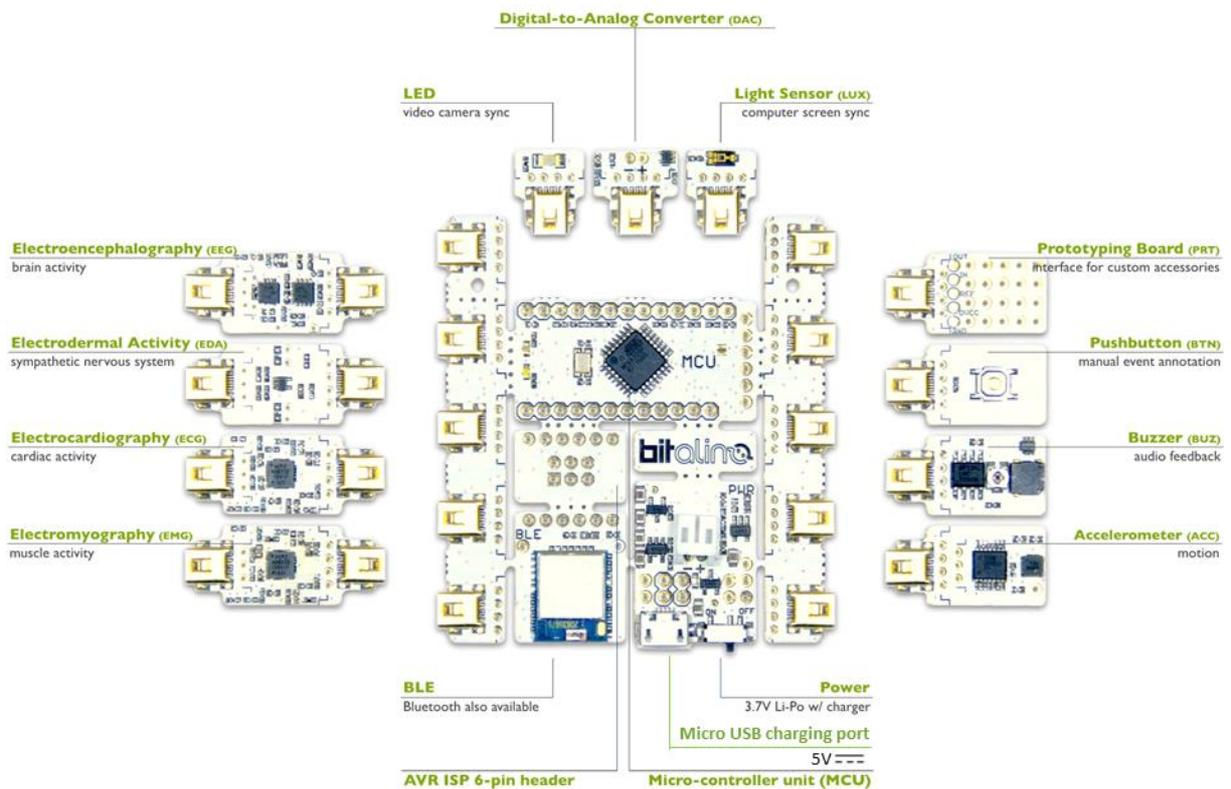

Figure 5: BITalino Plugged kit BLE/BT: Components of the “Core” and sensors.
b) BITalino (r)evolution **Plugged BLE / BT dual mode** (see Figure 5)